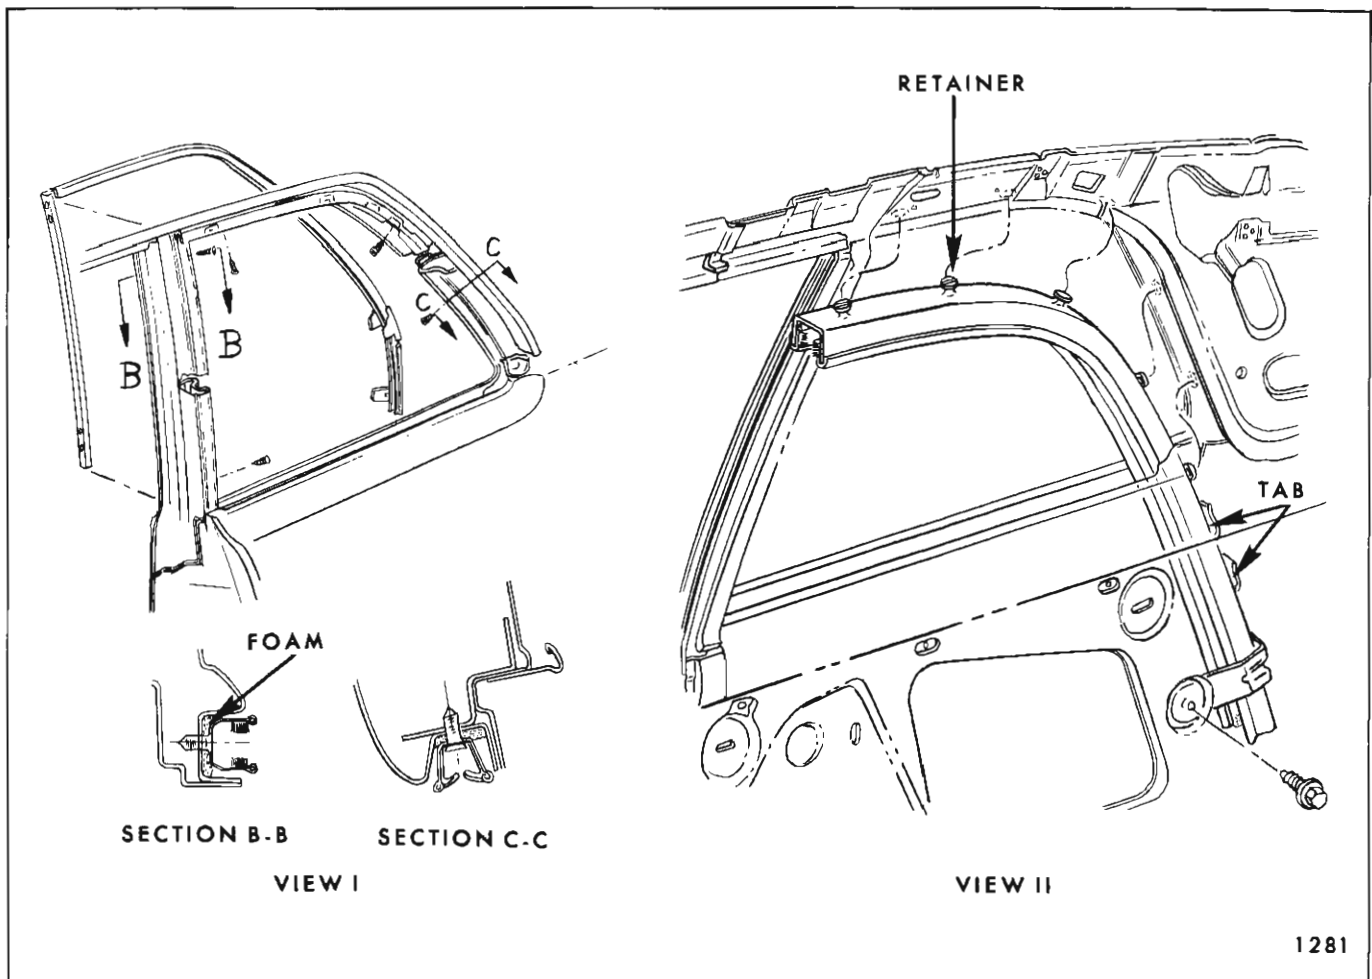

Fig. 2E26—Rear Quarter Window Glass Run Channels
a. Operate window to "full up" position and loosen window regulator attaching screws (Fig. 2E24 for "11" styles, Fig. 2E25 for "27" styles).
a. Loosen rear glass run channel attaching screw (Fig. 2E24 for "11" styles, Fig. 2E25 for "27" styles).